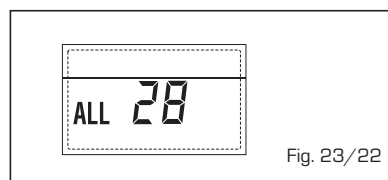

Fig. 23/22
- **ANOMALY NUMBERS RELATED BOARD "ALL 29" (fig. 23/23)**